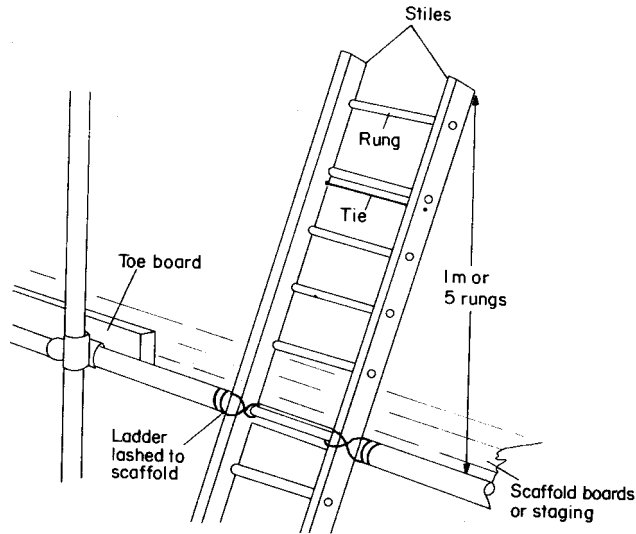

Fig. 12.9
- Ladders used for access to working platforms must extend five rungs or 1 m beyond the working surface (Fig. 12.9).